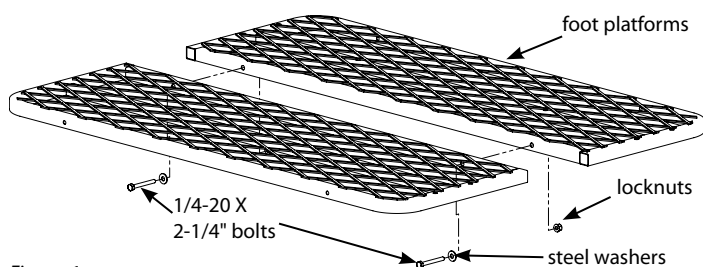

Figure 1
1. Attach the two foot platforms (2ML133) together using (2) provided 1/4-20 x 2-1/4" bolts, locknuts and steel washers. **SEE FIGURE 1. DO NOT tighten all nut and bolt assemblies completely!**